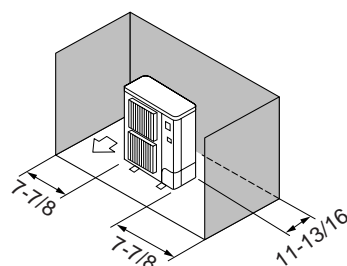

Fig. 2-4
- ③ Obstacles at rear and sides only (Fig. 2-4)